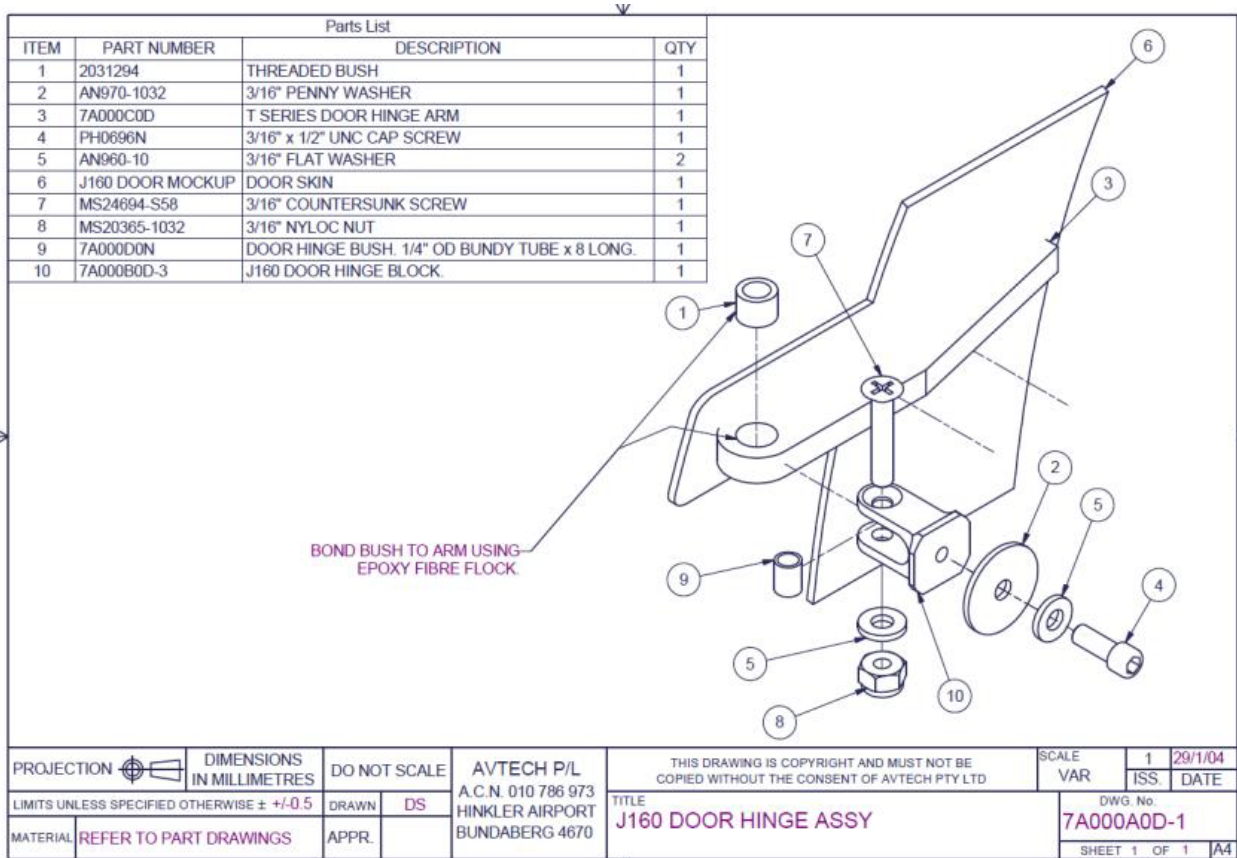
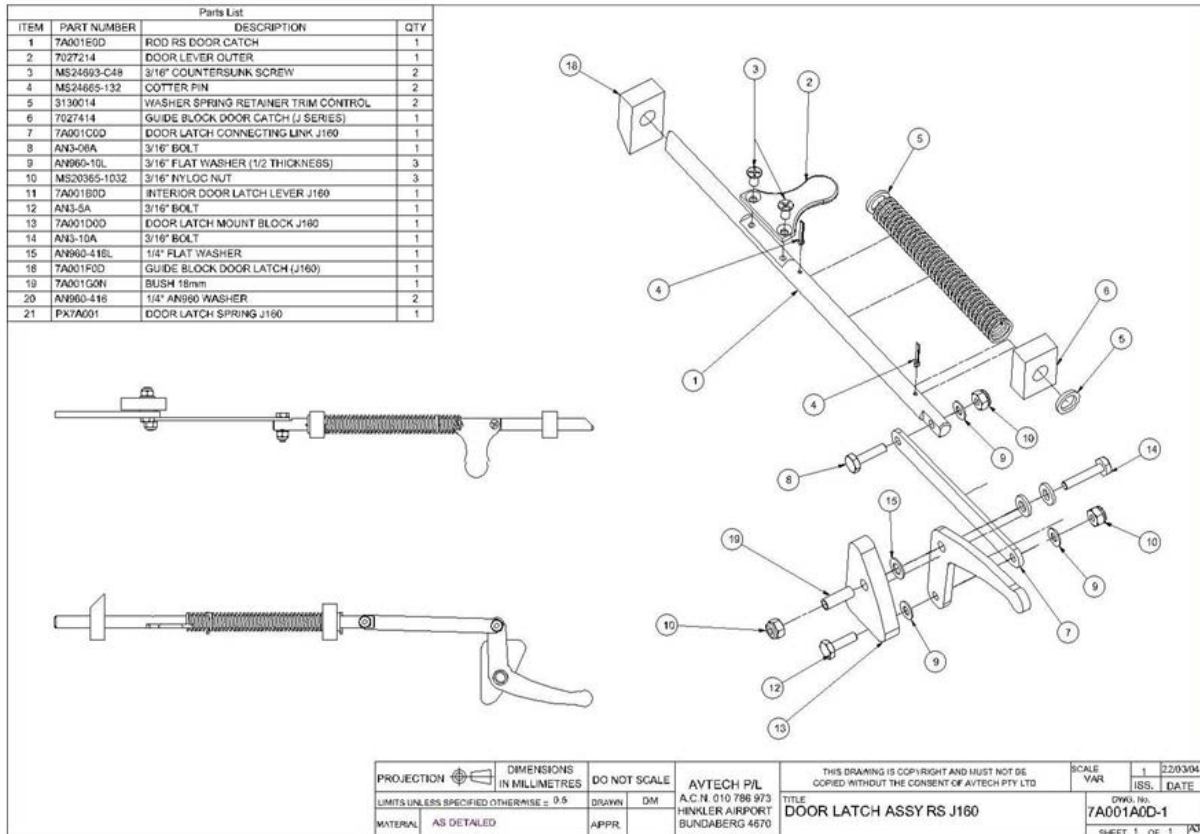

Figure 31 – J230-D Door Hinge Assy
Figure 34 – J230-D Door Latch Mechanism Assembly
- J230-D cabin doors are those which use the door hinge assembly shown in Figure 31 and the latch shown in Figure 34.